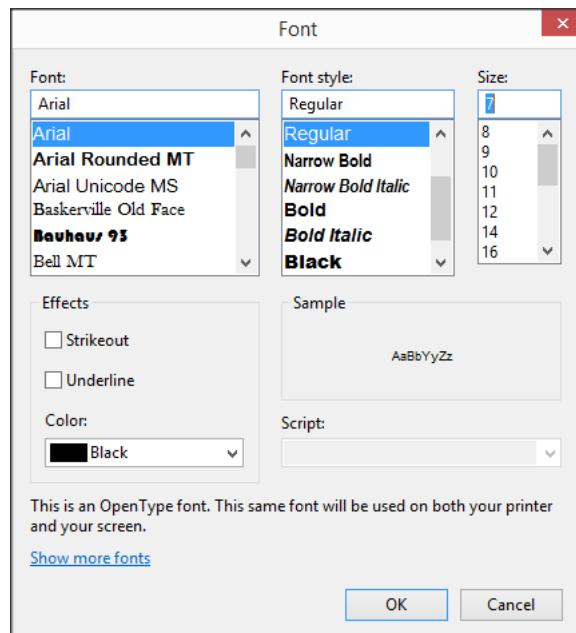

Figure 11.15: The specification of a new font
- ▶ enter ‘7’ as the ‘Font Size’ (see Figure 11.15),